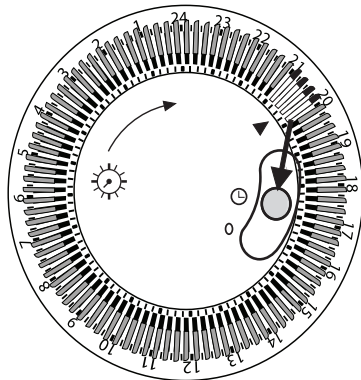

Fig 2
2. Fit the wheels assemblies onto the radiator by placing the U-shaped bolts between the outermost fins on each side of the radiator (see Fig.2 - 3).
3. Move the timer switch to symbol “ ① ” to enable the timer (Fig 2).